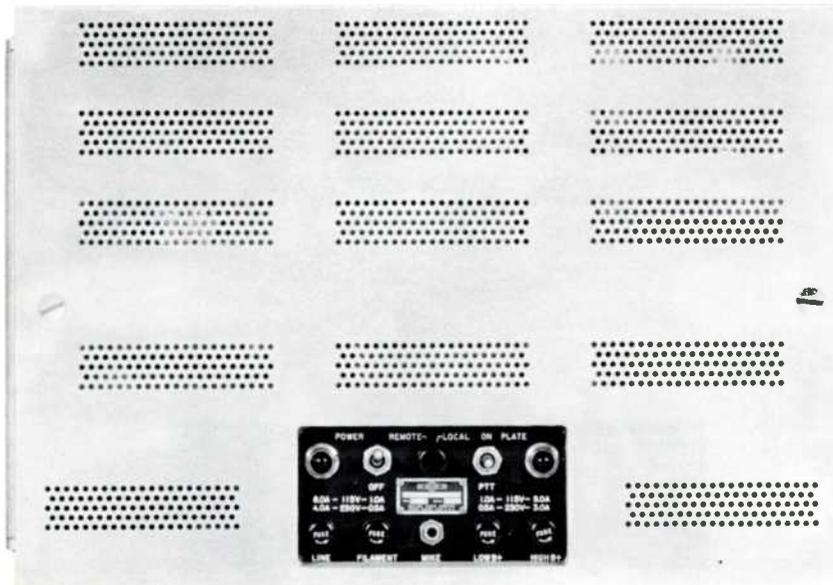

Figure 1-3. Modulator-Power Supply Unit
1.7.2.1 PHYSICAL CHARACTERISTICS. (Refer to figure 1-3.) The modulator-power supply unit is a vertically mounted chassis with front and rear dust covers. With respect to its mounted position, it is 19 inches wide, 12-1/4 inches high, and 7 inches deep. The unit weighs 51 pounds and occupies approximately 0.94 cubic foot of space. The fully interlocked dust covers protect all components leaving the control panel on the front exposed and the interconnecting, remote control and line power connectors exposed on the rear.